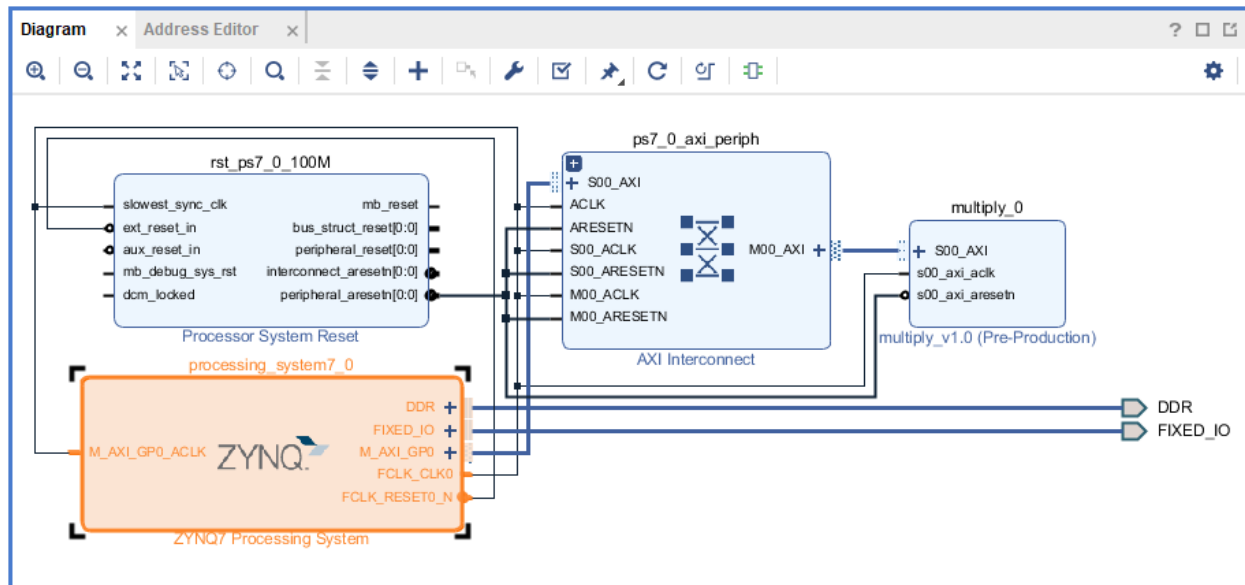

Figure 7: Layout of the Design
7. Now, select the Vivado window which has the PS system. Open the diagram tab and add 'multiply' IP to the PS system. Select 'Run Connection Automation' and in the prompted window select 'All Automation' and click 'OK'. Once automation is completed, a layout is generated. Right click on the diagram and select 'Regenerate Layout' to re draw the layout design. The layout is shown in Figure7.